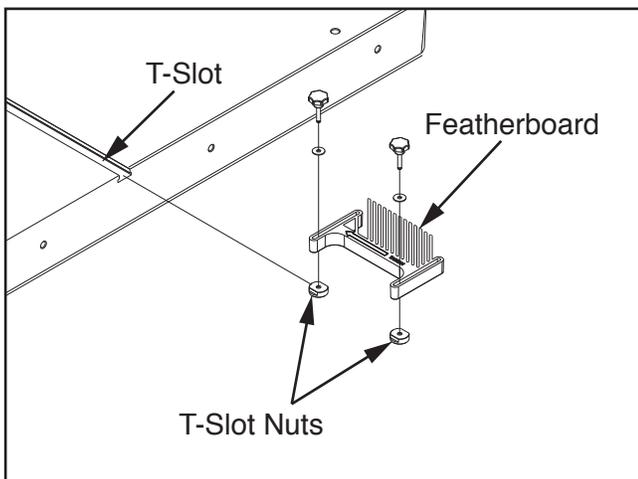

Figure 20. Table featherboard installation.
1. To install table featherboards, slide (2) T-slot nuts into T-slot on table (see **Figure 20**). Tighten knobs at desired position. Adjust guard and fence to achieve anywhere from 0" to 8" of clearance.